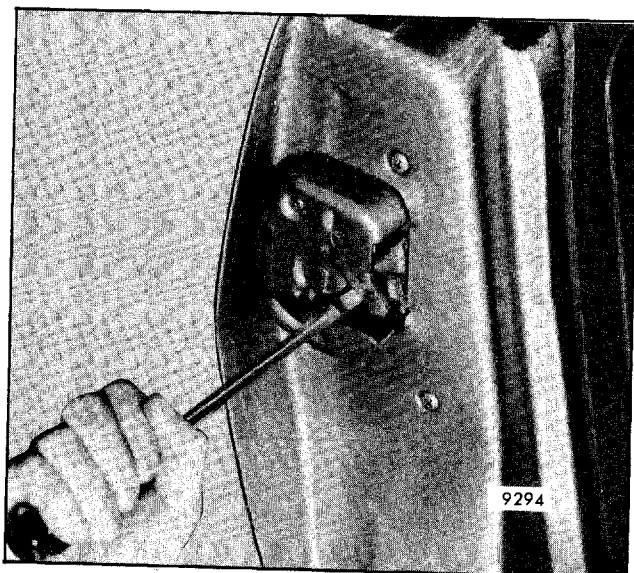

Fig. 7-141 - Manually Latch Upper Right Lock - Upper Lock Shown, Lower Lock Same
4. Manually latch right upper lock as shown in Figure 7-141.